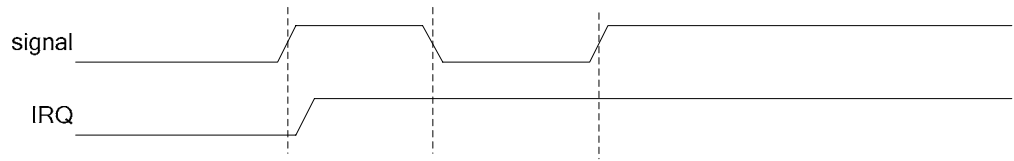
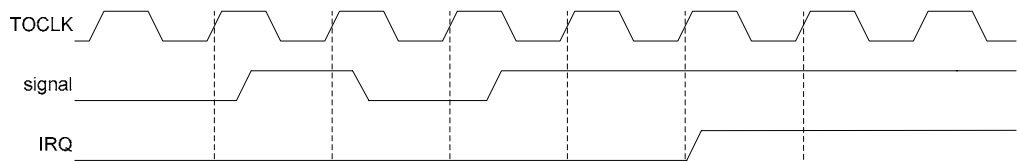
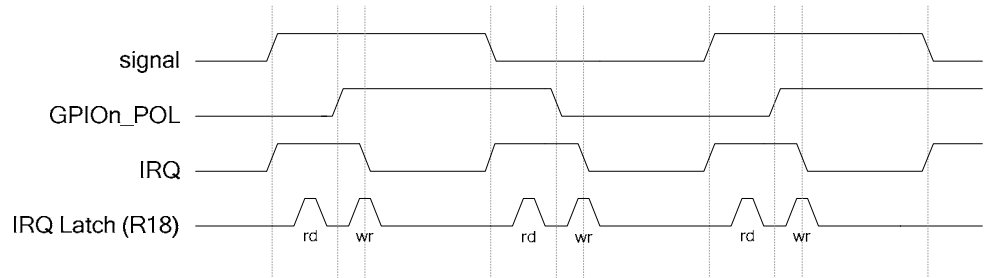

Figure 25 GPIO Latch
Figure 26 GPIO De-bounce
Figure 27 GPIO Edge Detect
Three typical scenarios are presented in the following Figure 25, Figure 26 and Figure 27. The examples are:
- Latch a GPIO input (Figure 25)
- Debounce and latch a GPIO input (Figure 26)
- Use the GPIOn\_POL bit to implement an IRQ edge detect function (Figure 27)